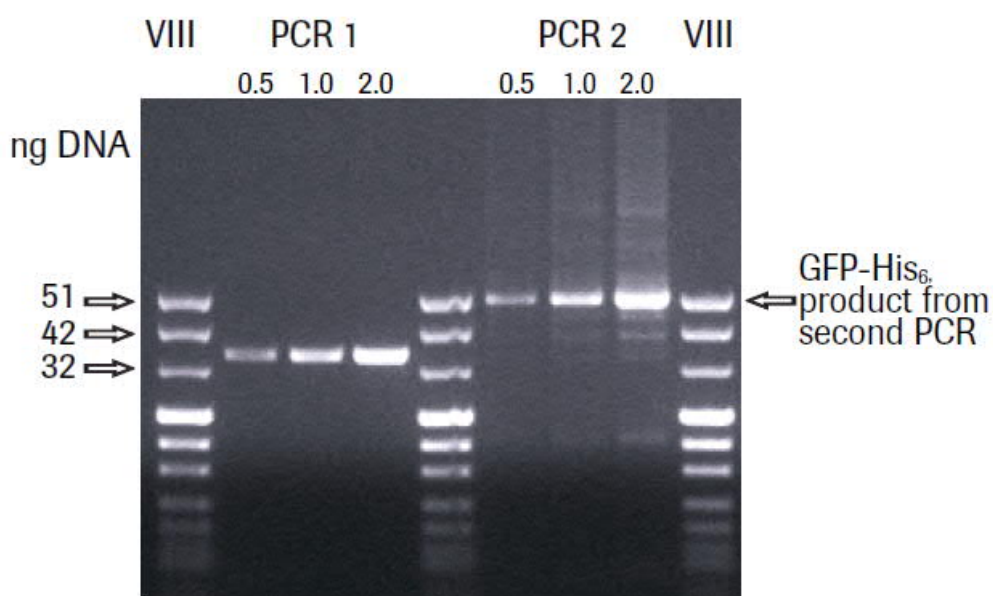

Figure 3. Typical products of the first and second PCR.
2. Estimate the product of the second PCR using the content of the molecular weight marker bands as an internal standard (Figure 3).
PCR product from the second PCR coding for C-terminal His6-tagged GFP was quantified (Figure 3). 150 ng of the PCR product (corresponding to 3  $\mu$ l) were used for expression in a 50  $\mu$ l reaction volume of the RTS 100 *E. coli* HY Kit and analyzed by SDS-PAGE and Western blotting (Figure 4). Best expression results were obtained with PCR product concentrations of 1–3 nM (corresponding to 50–150 ng of a 1 kb fragment in a 50  $\mu$ l reaction volume).
- Analyze the products of the GFP-specific first and second PCR on a 1% agarose gel. The expected products are 754 and 1,121 bp, respectively (Figure 3).